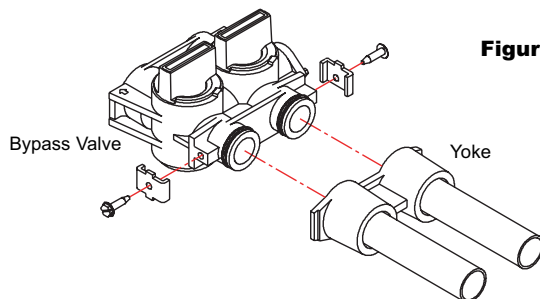

Figure 1
- Once the plumbing is complete, connect the yoke to the bypass valve (see figure 1).